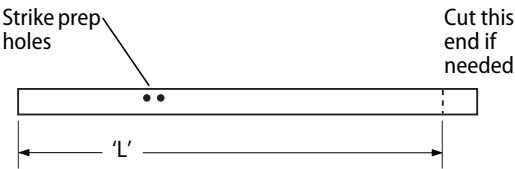

Figure 9 Cutting the mullion tube
- 3 Measure the mullion tube and compare the measurement to the calculated 'L.' If the tube needs to be cut, mark the cut line and extend it around all faces of the tube. If the tube is already prepared for strikes, be sure to make the marks at the top end, farthest from the strike holes. See Figure 9.